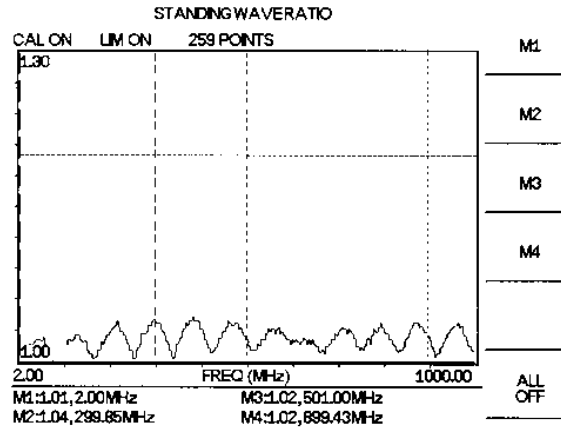

Figure 4-5. Cable SWR Measurement Results
Step 17. Observe the displayed measurement. Figures 4-5 and 4-6 show typical SWR and Return Loss measurements with markers and limit line set.
- Step 25.** Repeat steps 22 and 23 for marker M2. Set M2 to 300 MHz, M3 to 500 MHz, and M4 to 900 MHz (Figures 4-5 and 4-6 depict the SWR and Return Loss measurements).